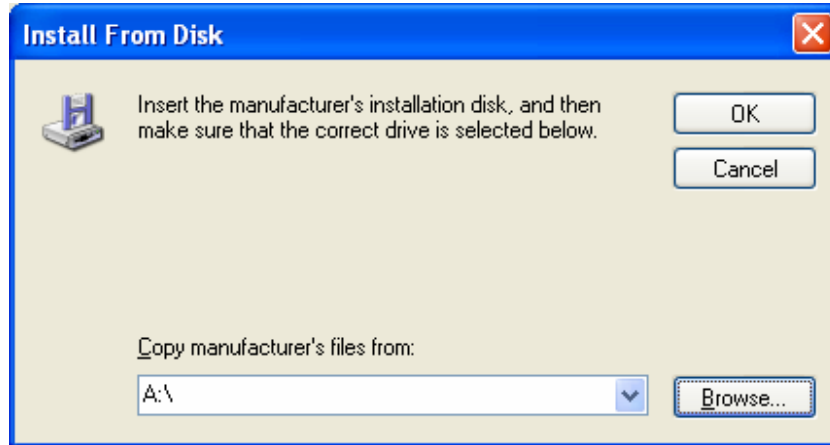

Figure 2-6
Step 5: Click **Have Disk...** in the next screen Figure 2-6.